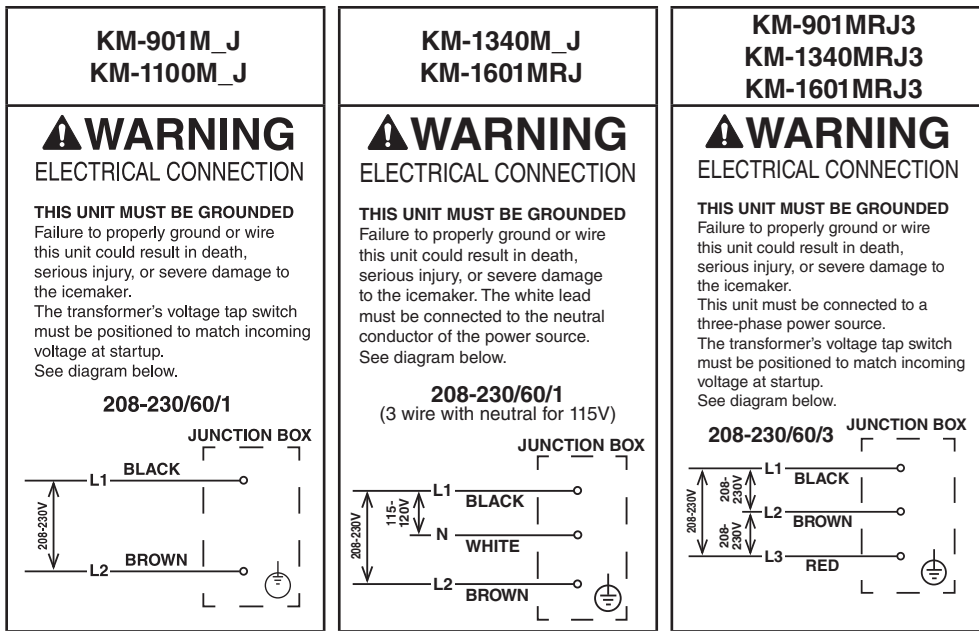

Fig. 8
- Electrical connection must be made in accordance with the instructions on the "WARNING" tag, provided with the pig tail leads in the junction box. See Fig. 8.